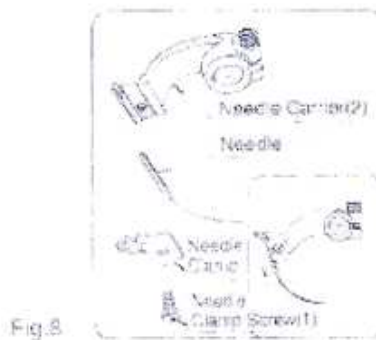

Fig.8
4. Replacing the needle (Fig. 8)
NOTE: Fig. 8 shows needle carrier and its parts in a disassembled view.